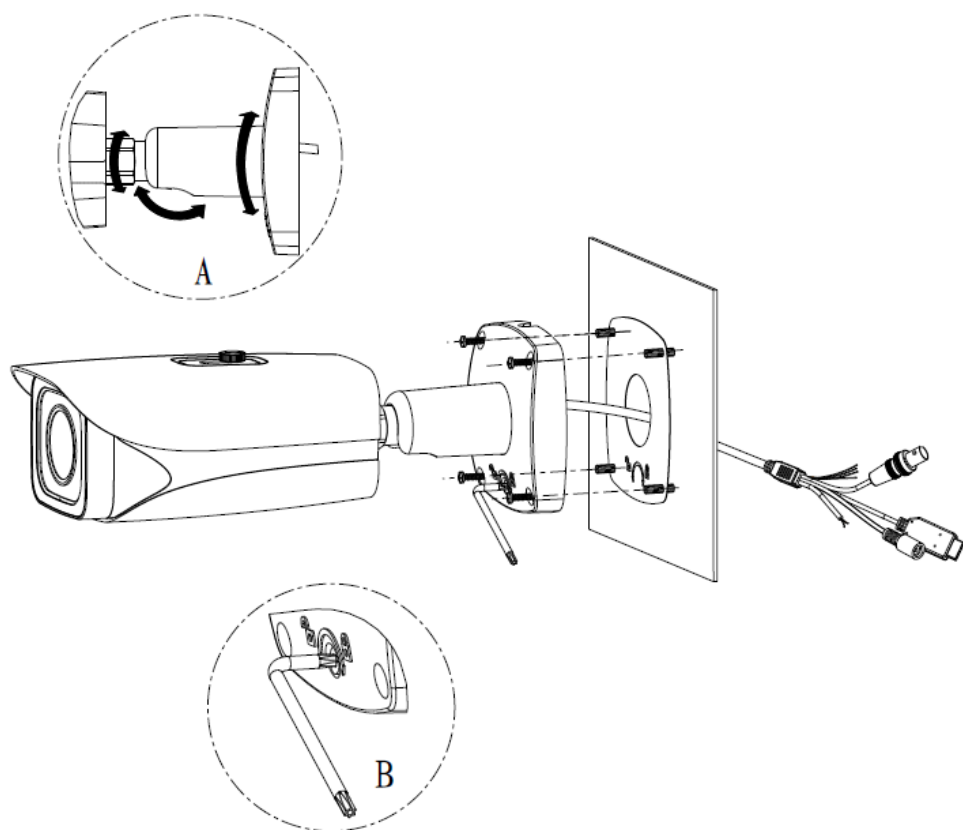

Figure 3-1
Users need to install expansion bolt first if the surface is cement (need to stick an installation position map on the wall first to keep accordance between the installation hole of the expansion bolt and the bracket), then install the bracket, as shown in Figure 3-1.
Step 3 Unscrew the adjusting screws by using an L-shaped wrench in the accessories bag, adjust the camera to a proper location which needs monitoring, then secure the adjusting screws and fix the camera, as shown in Figure 3-1 (A and B).